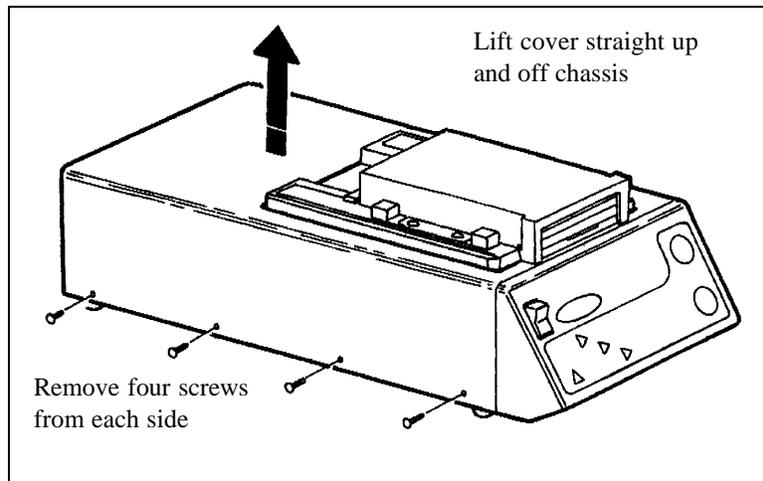

Figure 4- 1 Removal of photo printer chassis cover
1. Remove the film holder and then remove eight Phillips-head screws and star washers which secure the cover to the chassis. (Figure 4- 1)